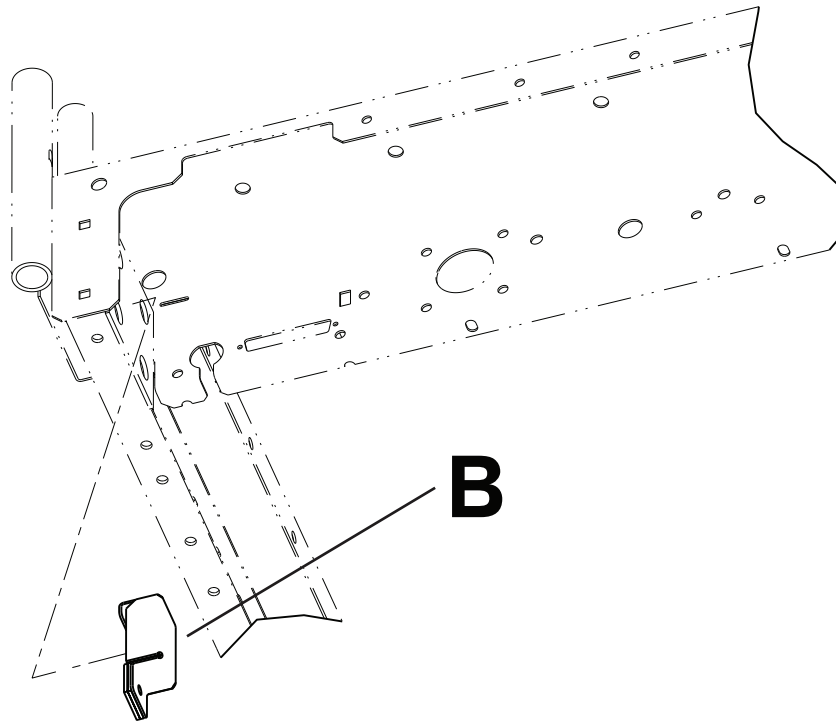

Figure 19 – Battery housing
If the 9V nurse call battery needs to be replaced, a message will appear on the footboard display. The battery is located on the patient left side at the head end of the bed (B) (Figure 19). No tools are required to replace the battery.
2. Separate the **Velcro®** that secures the battery housing (B) to the litter frame and lift the battery housing until it is free from the litter frame (Figure 19).